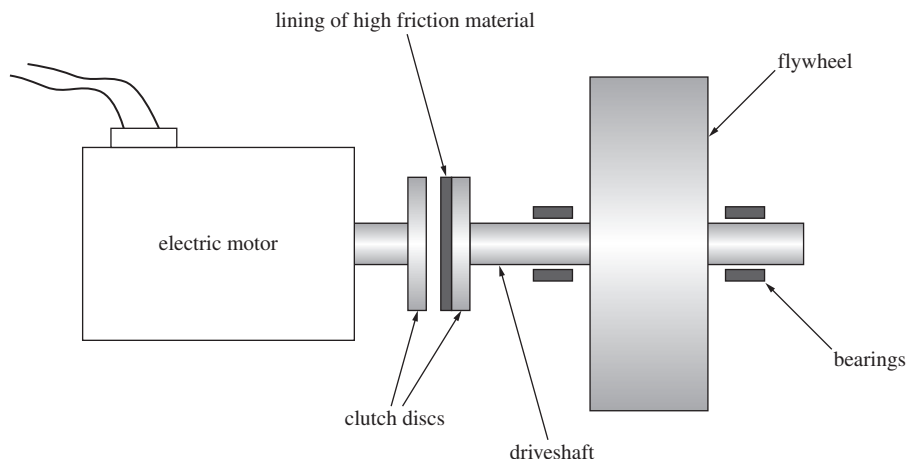

Figure 4
- 4 **Figure 4** shows a friction clutch which enables an electric motor to be easily connected to and disconnected from a flywheel. When the motor needs to be connected to the flywheel the discs are forced into contact and slipping occurs for a short time until the motor and flywheel rotate at a common angular speed. The clutch is then said to be engaged.